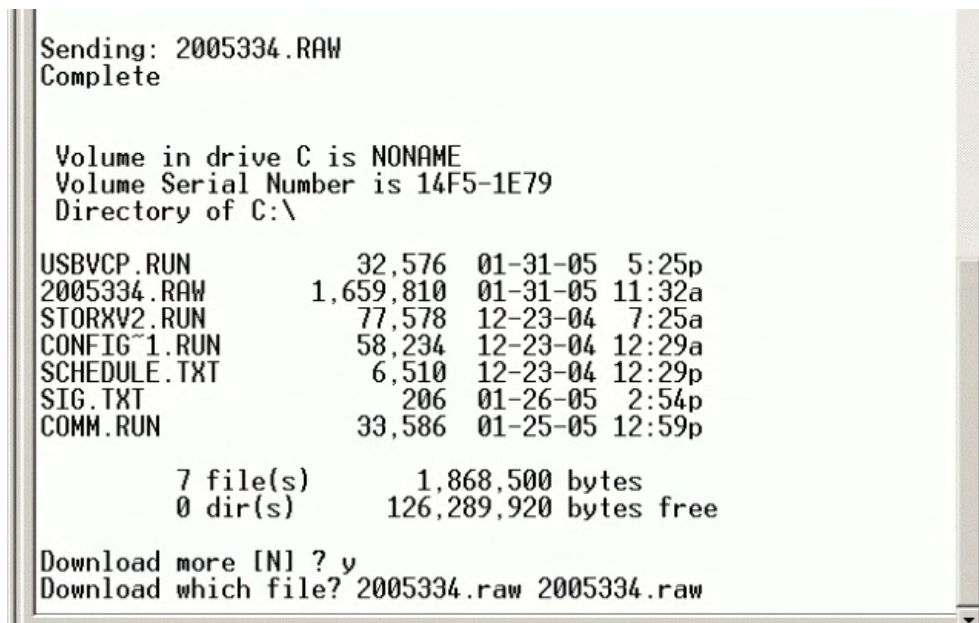

Figure 27 - Downloading multiple files
16. It is also possible to download multiple files when the STOR-X requests the download file name, using YMODEM batch mode. At the Download which file? prompt, simply type the names of the files you wish to download, separated by spaces, then press enter. Up to seven files (in standard 8.3 DOS naming convention) can be listed for download. In the example shown in Figure 27, the same file is listed for download twice (HyperTerminal will simply make a copy of the file for the second download).